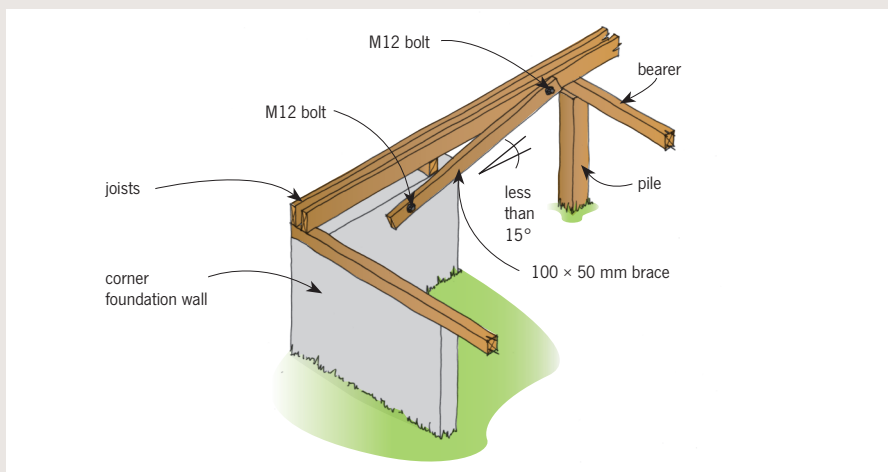

Figure 3: Corner wall foundation remedial details.
- add 100 × 50 mm timber braces fixed to existing piles and foundation walls or to piles and joists/bearers (see Figure 3)